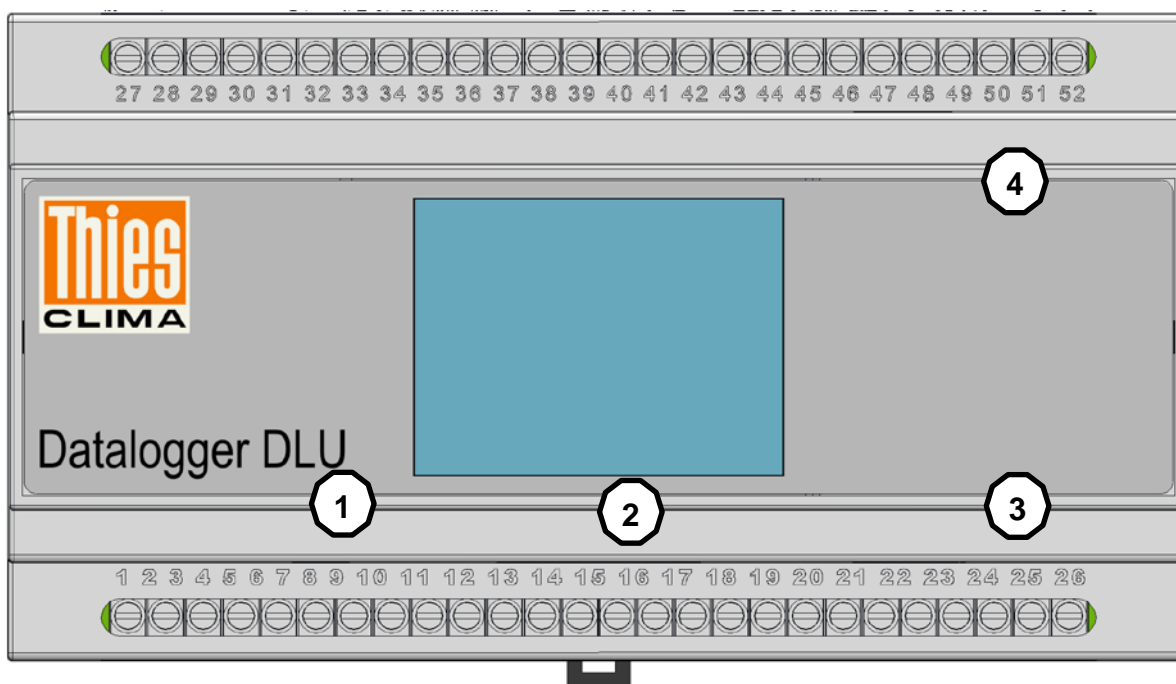

Figure 1: Layout plan of the connections
| Figure 1: Layout plan of the connections .....                  | 9  |
- USB (see **Figure 1**, marking ①).
- Ethernet (see **Figure 1**, marking ③).
The installation of this rail-mounted device (9 HP, horizontal pitches) is envisaged in distributor systems with common 35mm mounting rails (DIN rail) and covers with a 45mm cut-out measurements. The wiring is connected via jack terminals in the lower and upper device section (see **Figure 1**).